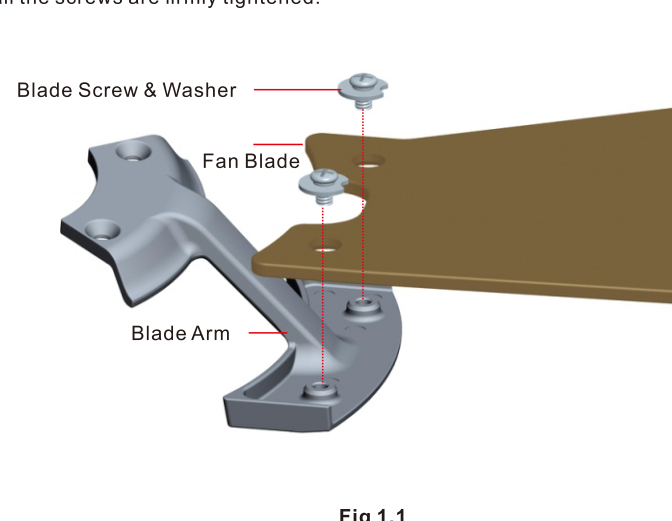

Fig 1.1
- 1.1 Locate 10 blade attachment screws with integrated washers, and bigger washers in hardware pack. Secure each blade to the blade arm with the screws and washers as shown in Fig 1.1.